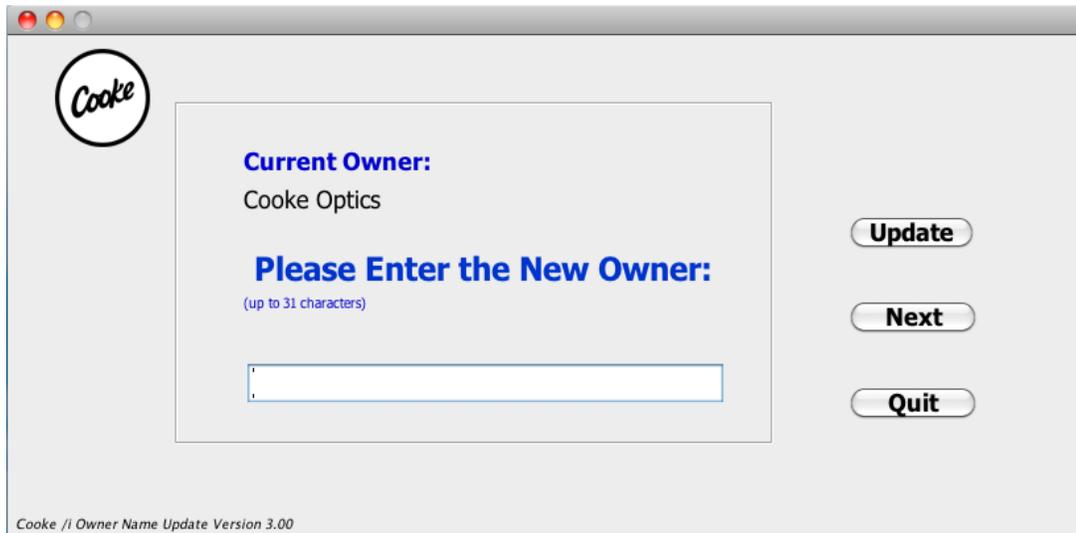

Figure 2 Enter the New Owner
- Click the Connect button, the second screen as shown in Figure2 appears. The current owner is displayed.